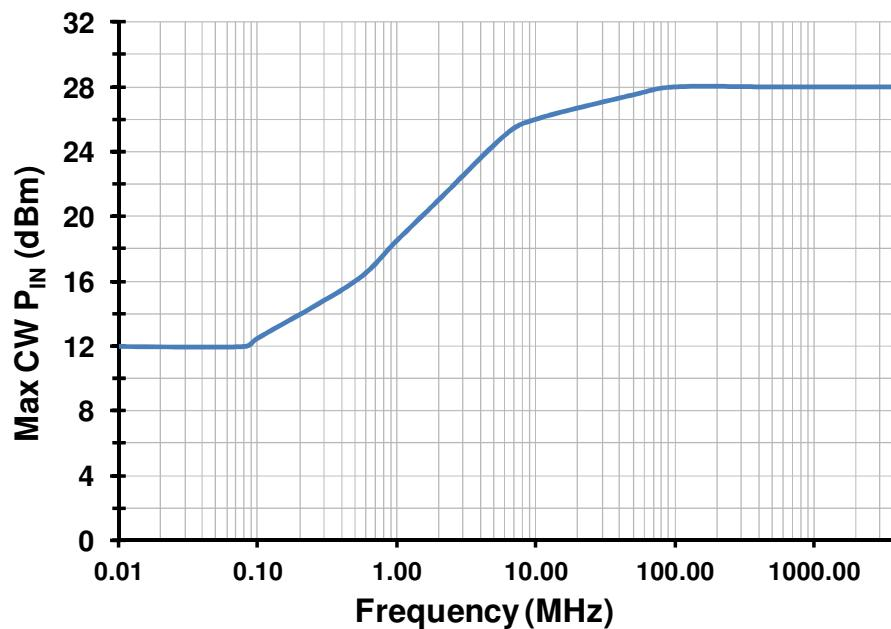
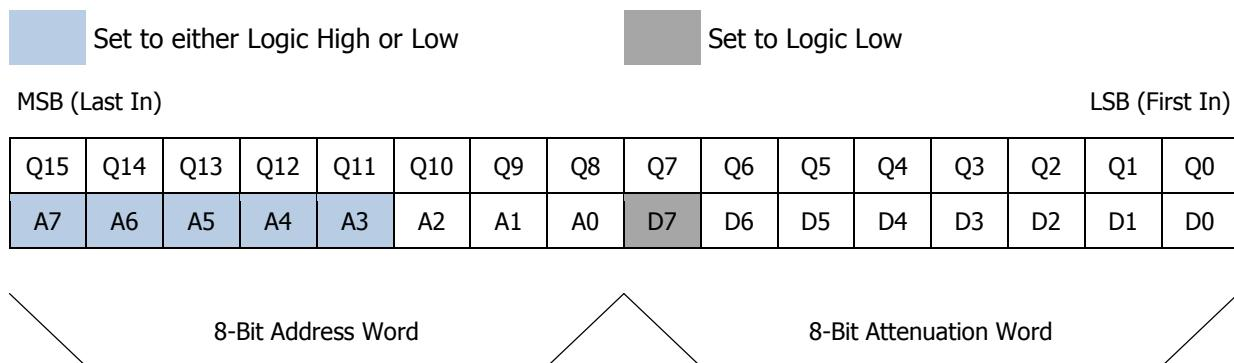

Figure 1 - Maximum Continuous Operating RF input power versus Input Frequency
Figure 2 - Two 8-bit words are comprised of 16-bit serial in, parallel out shift register
- Note 3: The input 0.1dB compression point is used as a linearity figure of merit. The recommended maximum input power is specified as the lesser of the two values from Figure 1 and Figure 2 above.